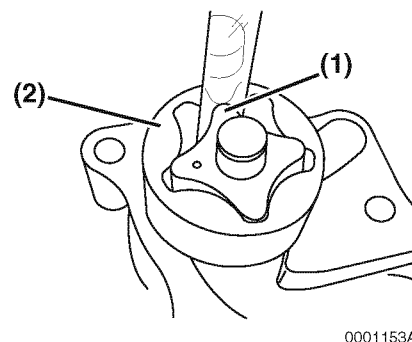

Figure 9-26
Determine the outer rotor to inner rotor tip clearance. Insert a feeler gauge between the top of an inner rotor tooth (Figure 9-26, (1)) and the top of an outer rotor tooth (Figure 9-26, (2)) and measure the clearance.